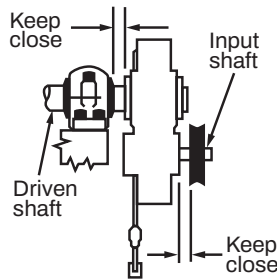

Figure 2
4. Install sheave on input shaft as close to reducer as practical. (See Figure 2)